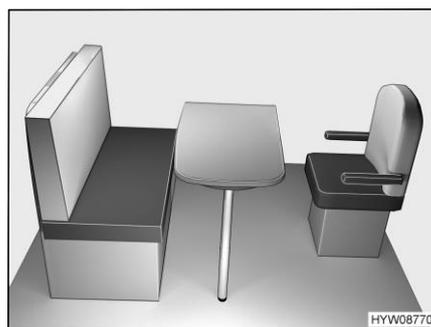

Fig. 71 Prior to conversion
- Turn driver's seat towards the table (Fig. 71).